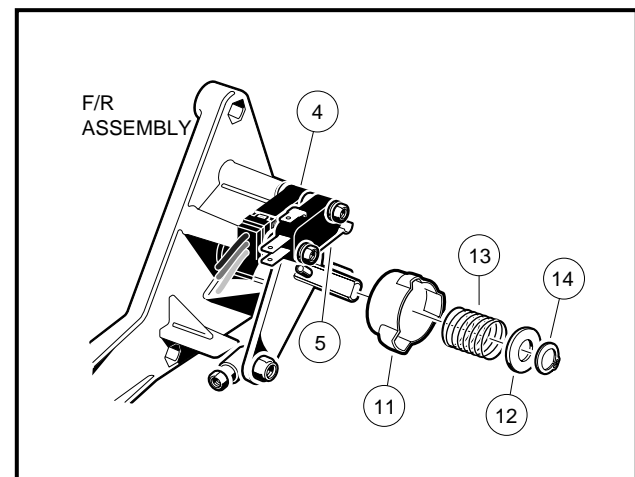

Figure 12-20 Lockout Cam
2. Remove the external snap ring (14) (**Figure 12-20, Page 12-18**).
3. Remove the plastic washer (12) and the spring (13).
4. Remove the cam (11).
1. Install the cam (11) (**Figure 12-20, Page 12-18**).
2. Install the spring (13) and the plastic washer (12).
3. Install the external snap ring (14) onto the shaft. Be sure the snap ring is installed in the groove on the shaft. Also be sure that the cam is installed so that the lockout limit switch is activated only when the Forward/Reverse handle is in the NEUTRAL position.